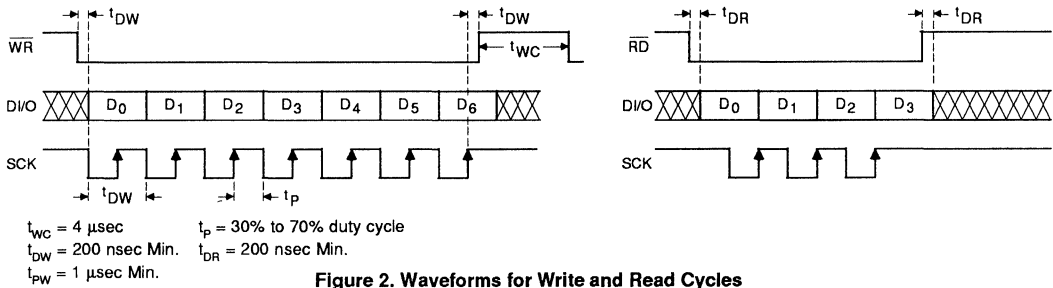

Figure 2. Waveforms for Write and Read Cycles
- Instructions to the modem IC (See Note 1 and 2). Data on the DI/O pin shifted into the modem when \overline{WR} is low, on rising edges of the SCK clock. Data is transferred into a latch when \overline{WR} goes high. (See Figure 2 for write cycle waveforms). Up to 7 data bits (D0–D6) can be sent to the device. These bits control the operating modes of the modem as shown below:
Modem Interface — The 4 line serial interface consists of a bidirectional data pin (DI/O), a write control pin (WR), a read control pin ($\overline{\text{RD}}$) and a clock pin (SCK). In the inactive state, WR, $\overline{\text{RD}}$ and SCK lines must be held in the high state. The read and write functions are controlled only by the microcomputer. To write data into the SC11016 (see timing waveforms of Figure 2), the controller must first make the WR line low. The least significant bit D0 of the data is then placed on the DI/O line. The SCK line is then toggled low and then high to shift the data bit into the SC11016 input register. Data is shifted into the input register on the rising edge of SCK.